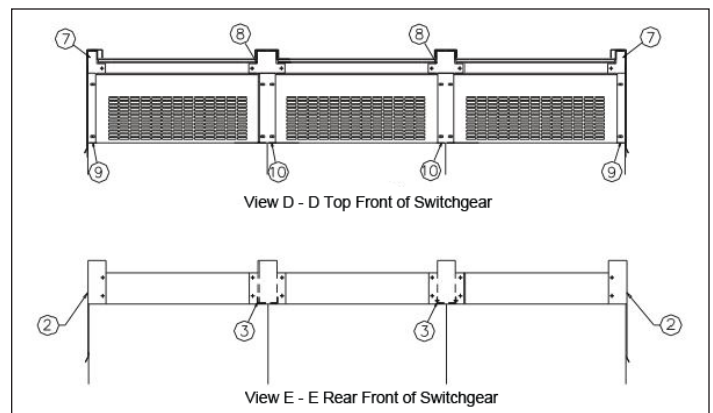

Figure 19. Filler Pieces and End Trim Locations for 5 kV through 27 kV Structures.
1. Remove the packaging material from the shipping groups of switchgear that are going to be installed. Remove any overhanging filler pieces and seam covers from the groups of switchgear. Figures 19 and 20 show the placement of the filler pieces and seam covers that may need to be removed and replaced later during assembly.